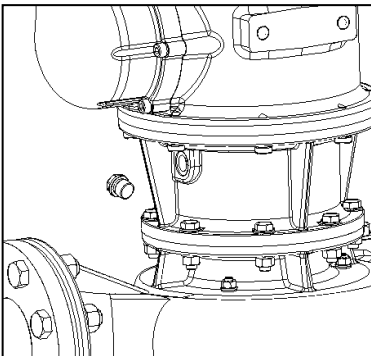

Figure 8
1. Unscrew the screw plug (figure 8).